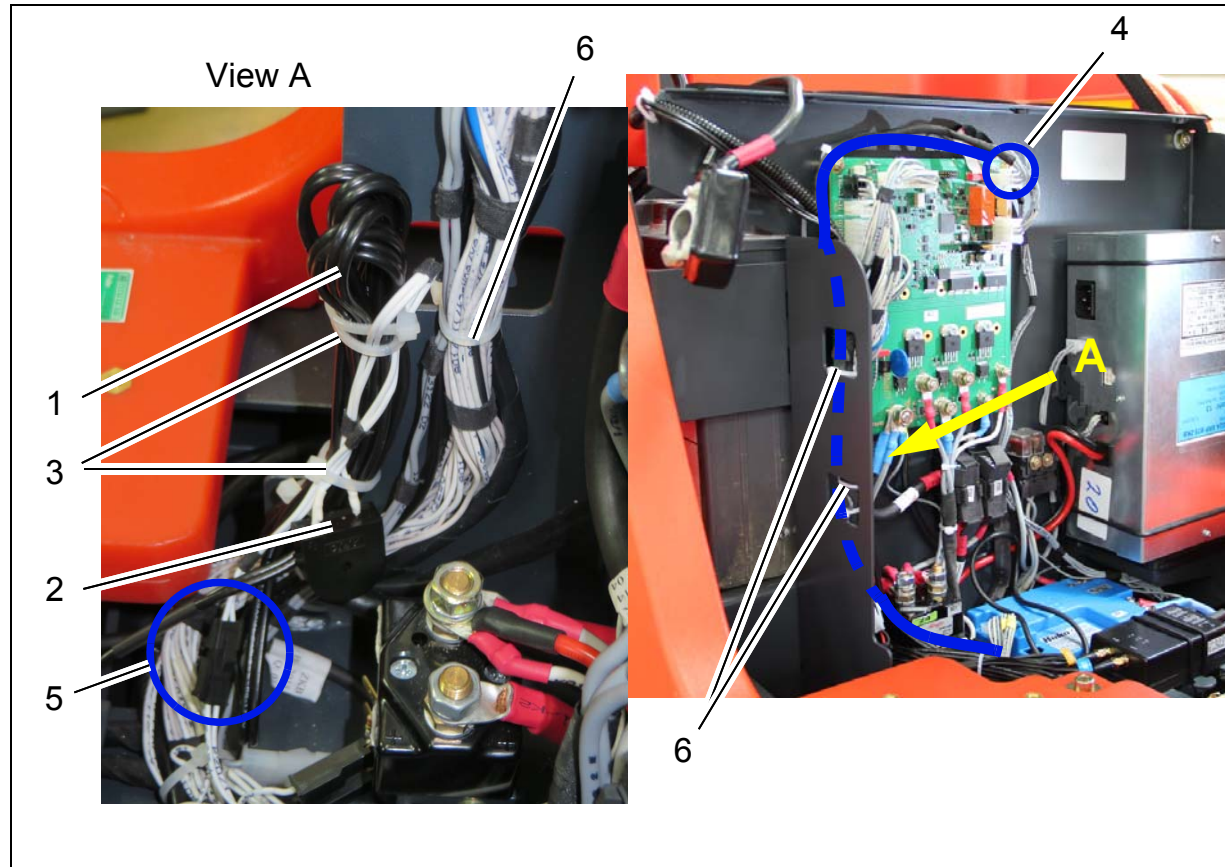

Fig. 4
Run the antenna cable (Fig. 4/1) in a loop and fix it together with the P20 buzzer (Fig. 4/2) using cable ties (Fig. 4/3).
1. Insert the 6-pole plug A01/X3 of the W77 cable loom into the diagnosis slot of control A01 (Fig. 4/4).
2. Connect the plug of the P20 buzzer to the plug of the W77 cable loom (Fig. 4/5).
7. Use cable ties to fix the W77 cable loom to the chassis (Fig. 4/6).